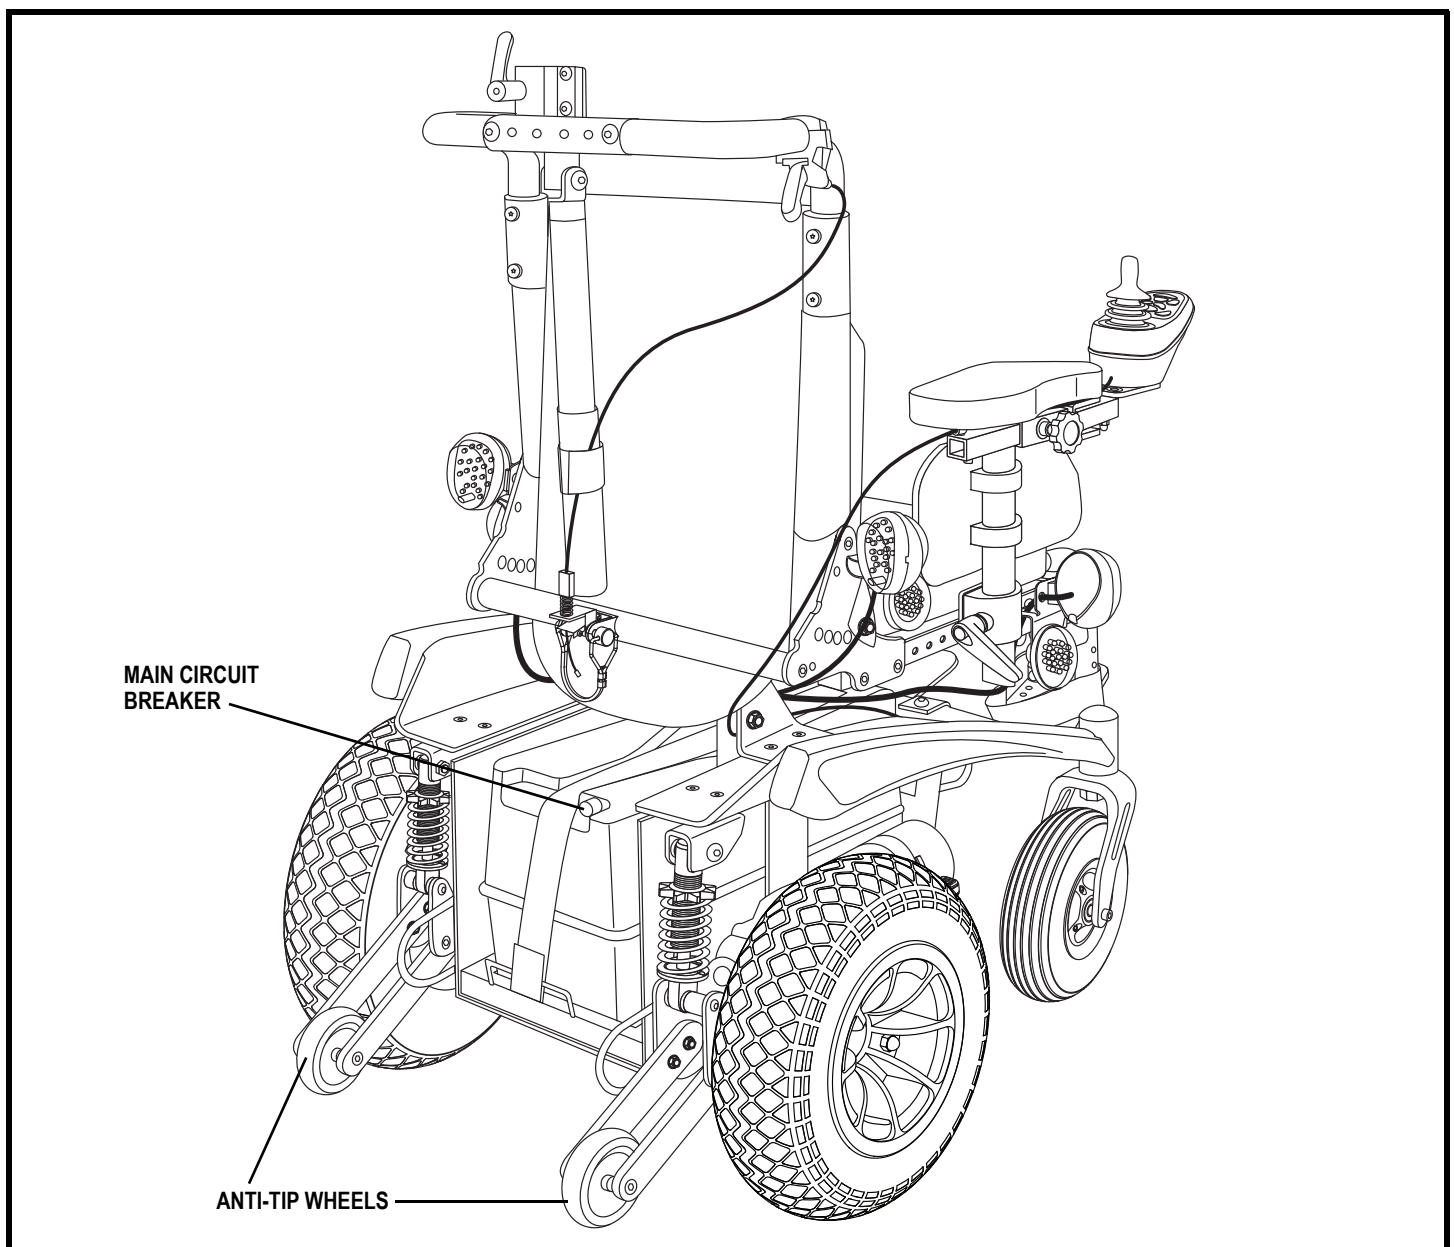

Figure 6. The Sparky Power Base
The electrical components are located on the front of the power base. See figure 6.
**Main Circuit Breaker:** The main circuit breaker is a safety feature built into your power chair. When the batteries and the motors are heavily strained (e.g., from excessive loads), the main circuit breaker trips to prevent damage to the motors and the electronics. If the circuit trips, allow your power chair to “rest” for approximately one minute. Next, push in the circuit breaker button, turn on the controller and continue normal operation. If the main circuit breaker continues to trip repeatedly, contact your Quantum Rehab Provider. The main circuit breaker is located on the rear of your power chair. See figure 6.